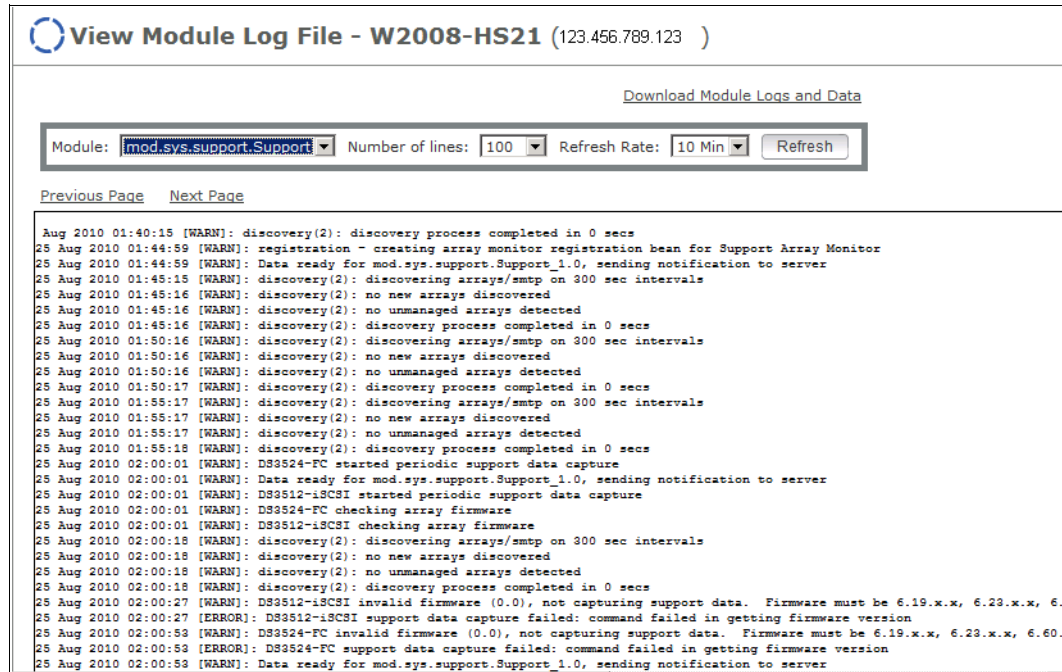

Figure 14-30 View Module Log File
2. The **View Module Log File** window is displayed as shown in Figure 14-30 on page 348. The name `mod.sys.support.Support` is displayed in the **Existing Modules** field. In this window, you can specify the number of log entries to display (up to 1,000 lines) and the frequency of the data refresh.